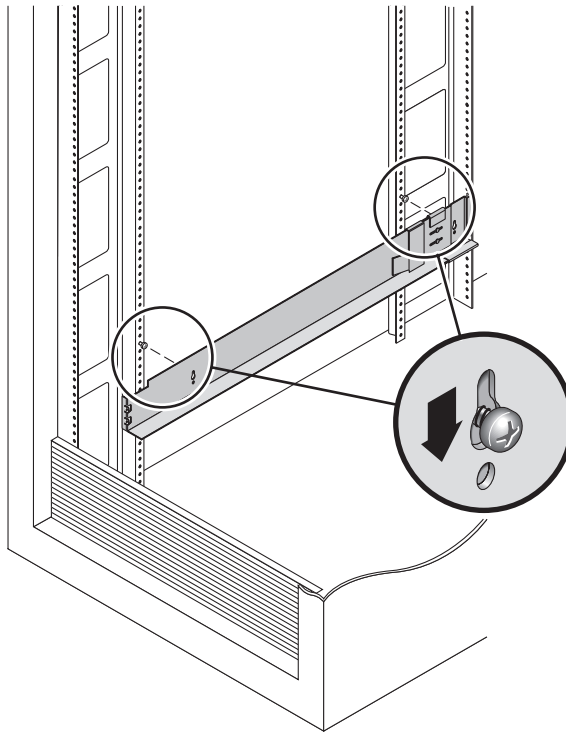

FIGURE 2-4 Hanging the Left Rail
6. Note the screw hole number of the mounting hole that will be used by the keyhole slots in the rail (FIGURE 2-4).
7. Hang the left rail by aligning the large slots of the rail over the front and back screws and then pulling the rail down so that each screw is at the top of the slot (FIGURE 2-4). Repeat for the right rail.